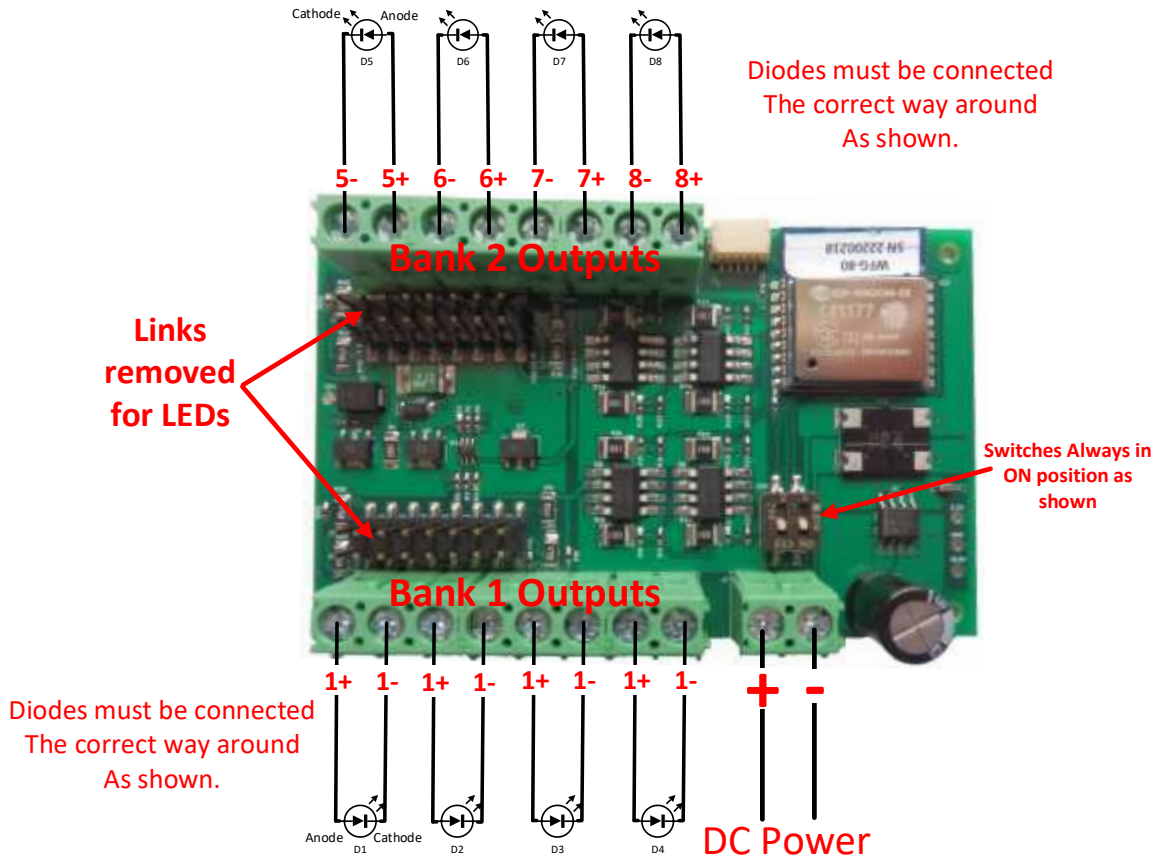
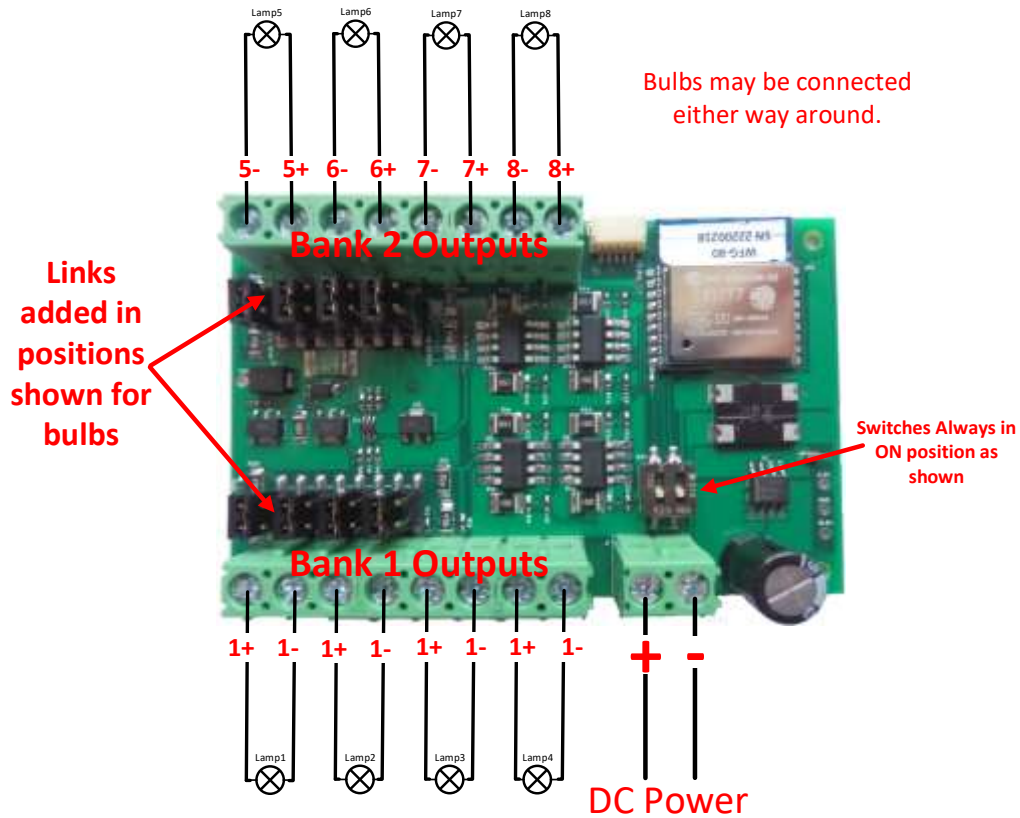
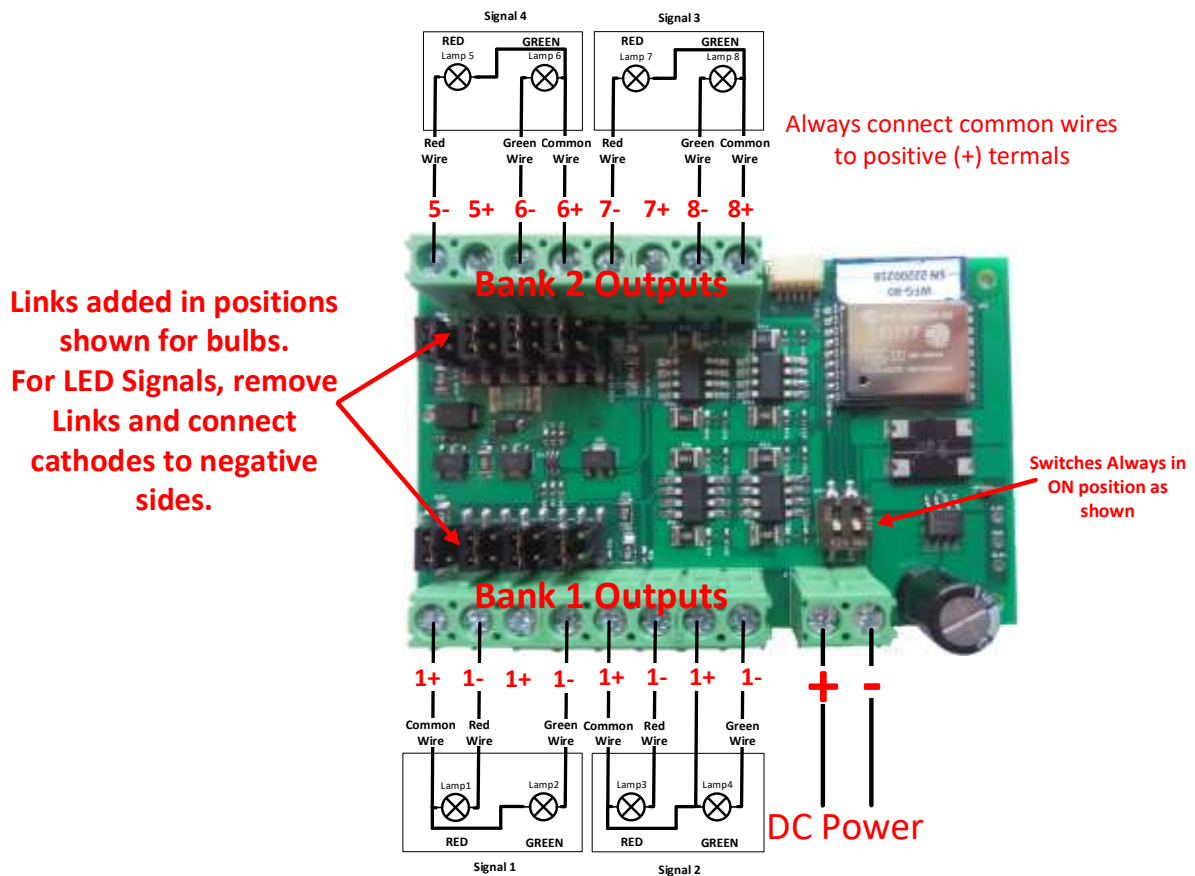
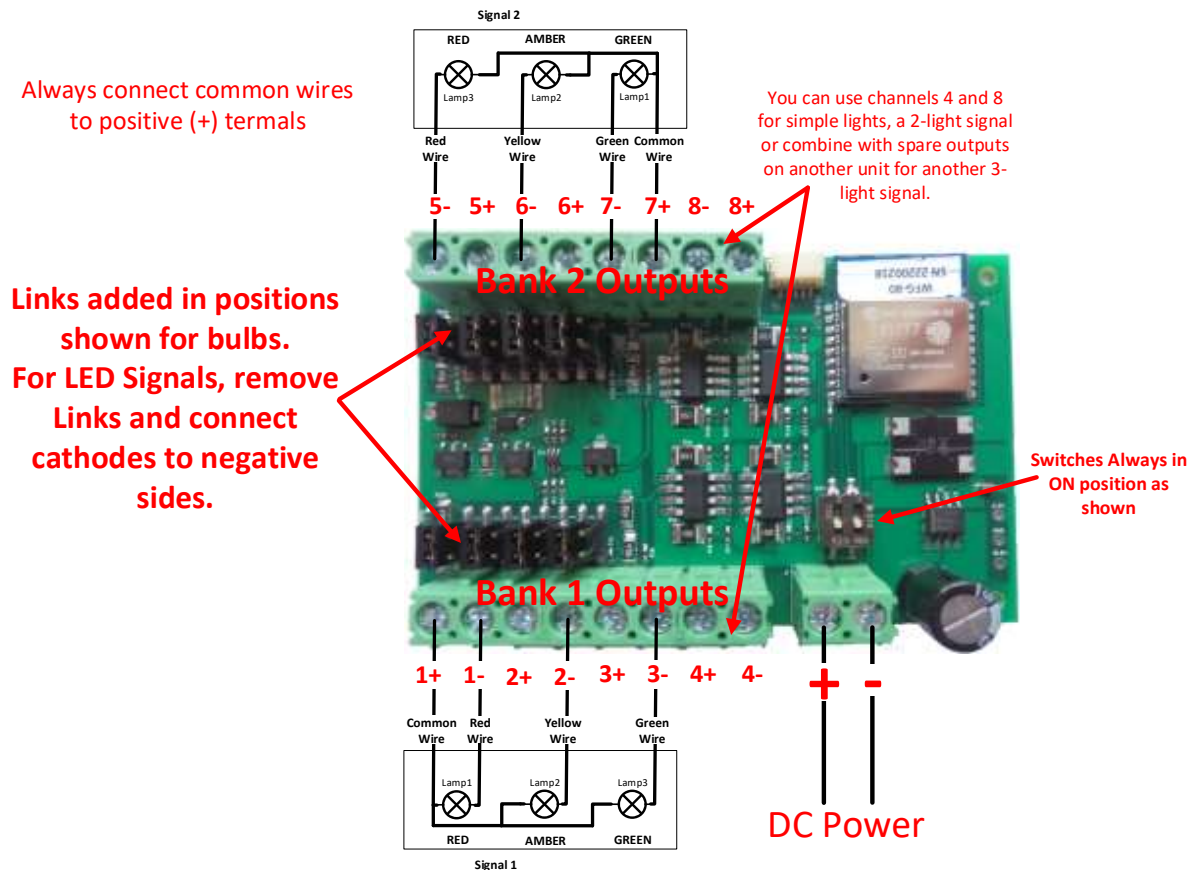

Figure 2. Connection Diagram for LED Lights
Figure 3. Connection Diagram for Grain-of-Wheat Lamps
Figure 4. Connection Diagram for 2-Light Signals
Figure 5. Connection Diagram for 3-Light Signals
- (1) First determine what kind of lights you wish to control. WFG-80 will control two basic types: Light Emitting Diodes (LEDs) and low power filament lamps such as “Grain of Wheat Bulbs”. You are advised to use those rated around 12 Volts. Higher voltage bulbs can be used but they will not be very bright. You can make the lights brighter by using a higher power supply voltage such as 15 Volts instead of 12Volts. Also note that you can turn the dimmers to a higher setting using Tower Operator. You can mix LEDs and filament lamps on the same board but you must be careful to place the links correctly. The links provide three options for each channel, Direct, 475 Ohm series resistor and 1000 Ohm series resistor. If you use LEDs you **MUST** use the 475 or 100 Ohm option for those channels. Direct mode will **DESTROY** LEDs. If you use filament lamps you need to use Direct mode for those channels or the lamps will be very dim. Table 1 shows the link settings. You can also combine channels to control features with multiple lights like signals. Tower Operator allows you to assign channels to the signal device on the screen once it is physically connected.
- (2) Wire the WFG-80 to your lights or signals according to Figure 2, Figure 3, Figure 4 or Figure 5. If you have multiple types of device, you can take account of more than one figure. Be sure to connect common wires to the positive side of each of the eight channels.
- (3) Note that each of the two banks can be dimmed independently through software using the Tower Operator app.
- (4) Note that the two DIP switches must be always in the On position. These are only used for factory configuration.
- (5) Connect power to your unit at TRKA and TRKB as shown in Figure 2, Figure 3, Figure 4 or Figure 5. It does not matter which way round you connect the power. You can also use DCC track power but NOT AC. The power should be between 12 and 18 volts.